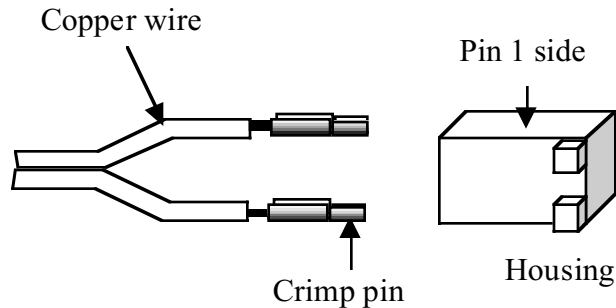

Figure 10-3
- Solder crimp pins to the two wires at one end (Figure 10-3).